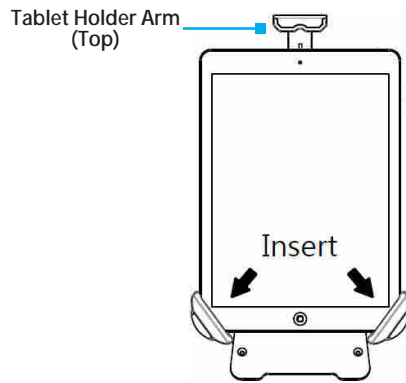

Figure 5
1. Insert the **Tablet** into the **Tablet Holder Arms**, bottom-end first. (Figure 5)